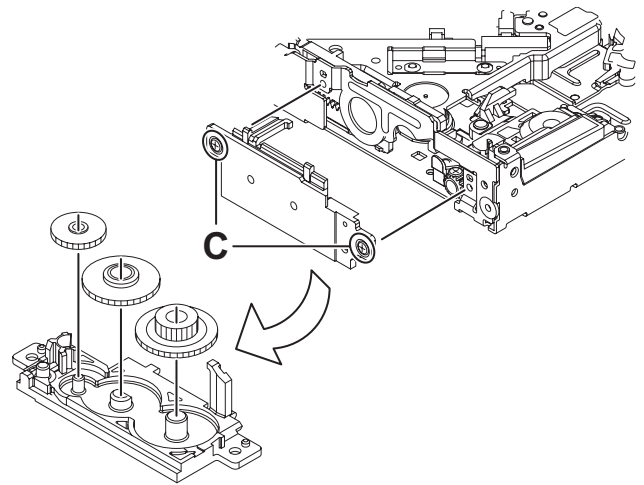

Fig.10
- (2) Remove the two screws C attaching the Gear base assembly. (See Fig.10)